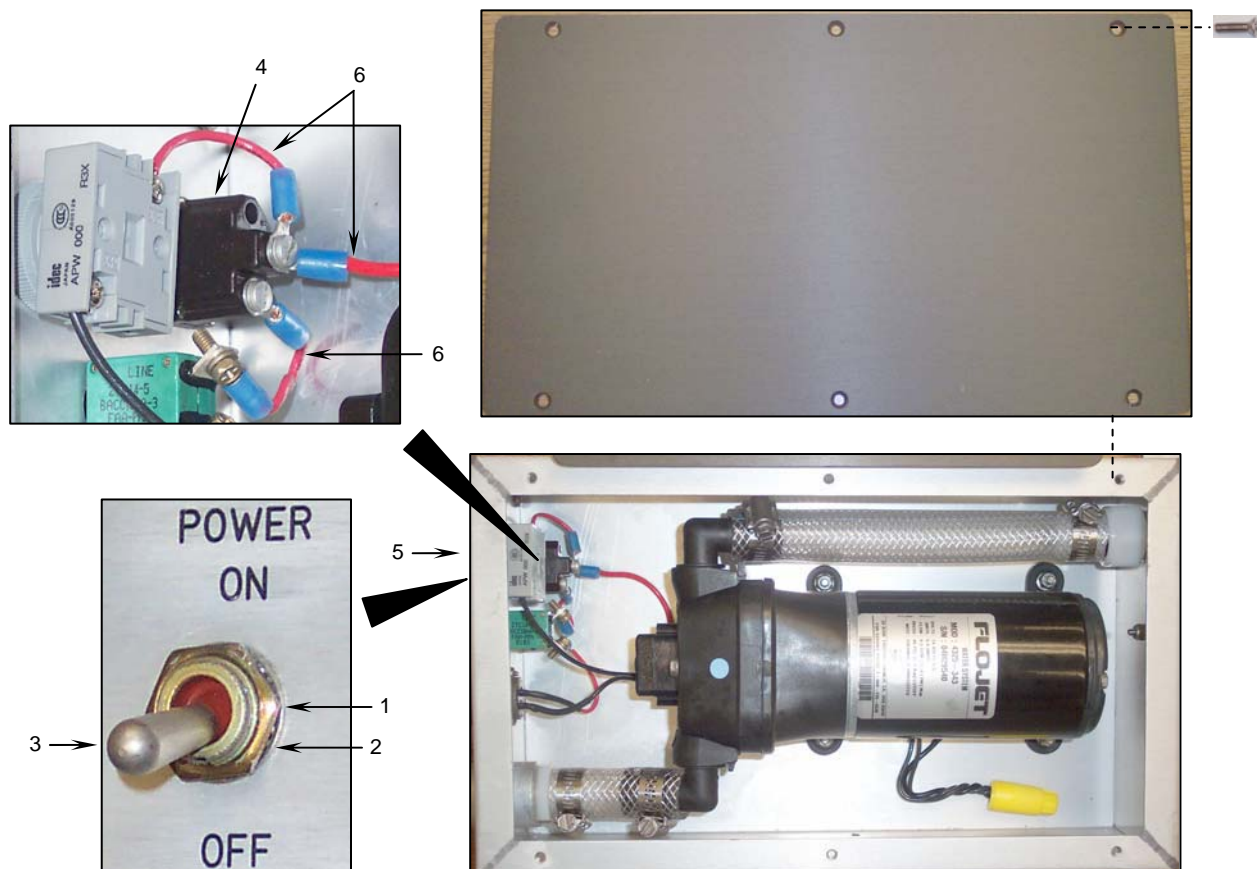

Figure 4. Removing the Sink Fill Pump Assembly Power Switch.
- a. Remove and discard the lock nut (**Figure 4, Item 1**) and lock washer (**Figure 4, Item 2**) from the front of the power switch (**Figure 4, Item 3**).
- b. Pull the power switch assembly (**Figure 4, Item 4**) out of the fill pump enclosure (**Figure 4, Item 5**).
- c. Tag and disconnect the three wires (**Figure 4, Item 6**) from the two terminals at the back of the power switch.